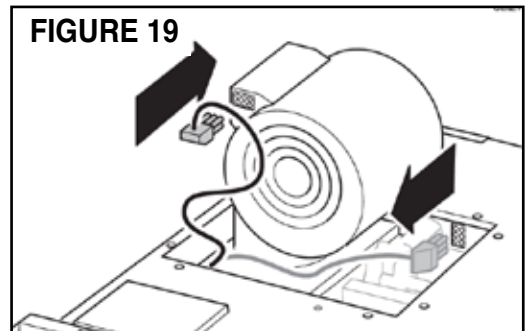

FIGURE 19
- Disconnect the cable from inside the hood. Plug in that same cable from the hood into the motor kit. (FIGURE 19)